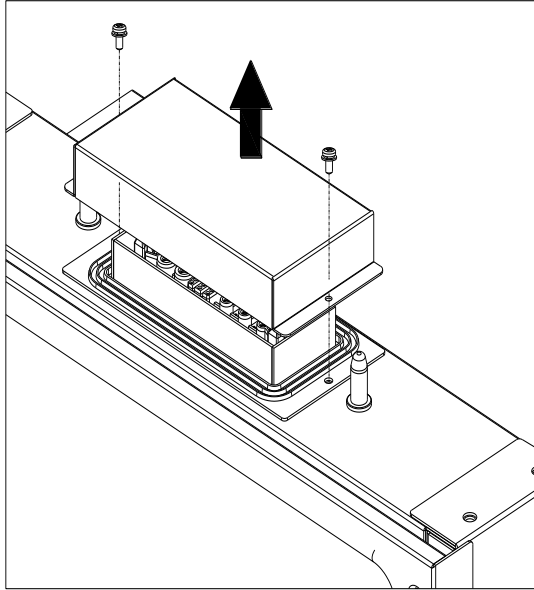

Figure 3-11 Wiring Bulkhead Cover
6. Attach the bulkhead cover shown in Figure 3-11 to the left side of the wiring box. (see Figure 3-14)